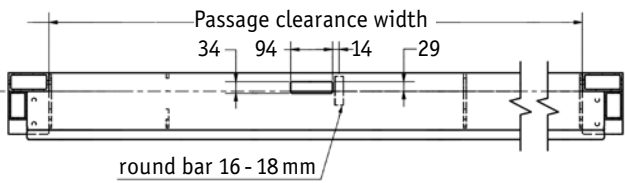

Fig. 3.1.4
- Make the opening for the roller shutter according to the installation drawing on the left side (Fig. 3.1.4).